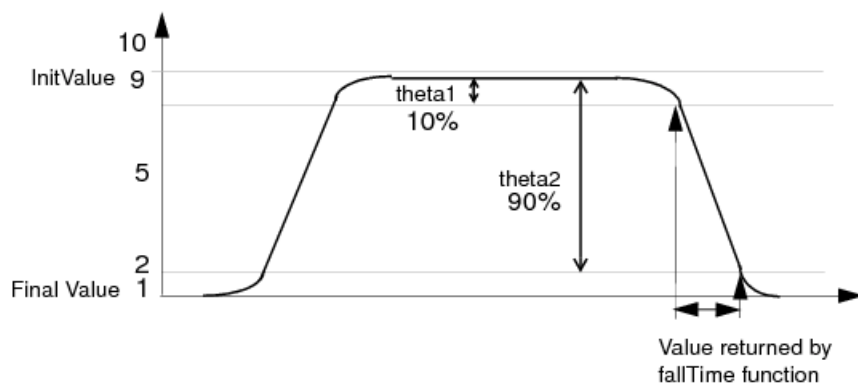

Figure 2 ADE Fall Time Calculation
- b. For fall time use (see Figure 2):